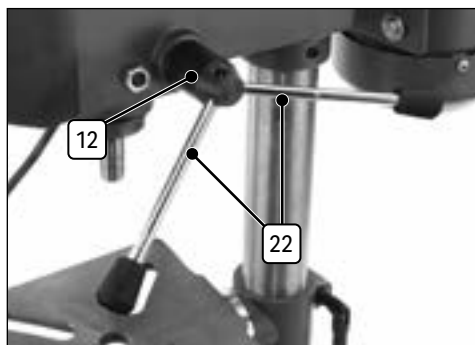

Fig. 4
6.4 Fitting Plunge Handles (Fig.4)